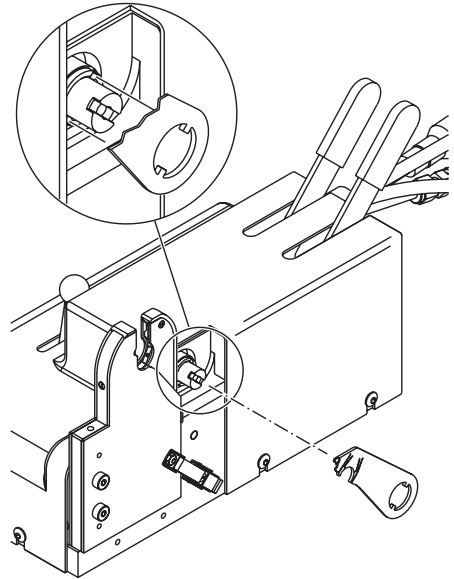

Figure 36 *Aligning the Keyed Inner Clamp with the Notched Shaft*
6. Align the keyed inner plate of the movable side plate with the notches in the shaft. See Figure 36.